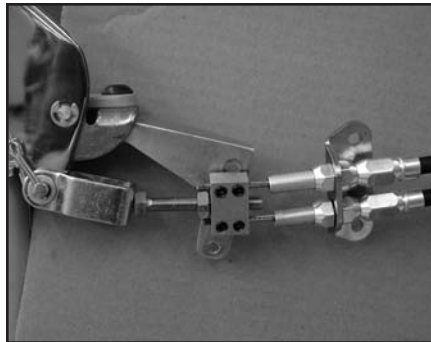

Figure 13
- Attach Cable Block to equalizer or hand brake handle by sliding Cable Block clevis over either the equalizer or the handle attachment point. Push clevis pin completely through the holes in the clevis. Slide washer over the clevis pin and insert cotter pin, but do not bend over, Figure 13.